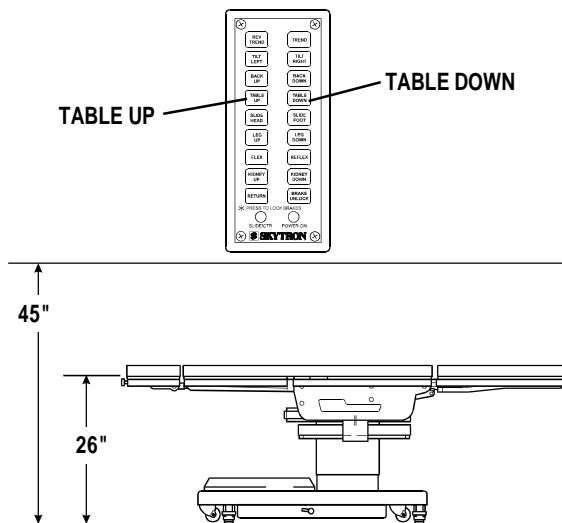

Figure 2-7. Elevation Function
e. **Elevation.** To raise table top, press the TABLE-UP button (figure 2-7.). The table will lift a patient weight of 500 pounds up to a maximum height of 45". To lower the table top, press the TABLE-DOWN button. The table top will go down to a minimum height of 26" (minus pad).